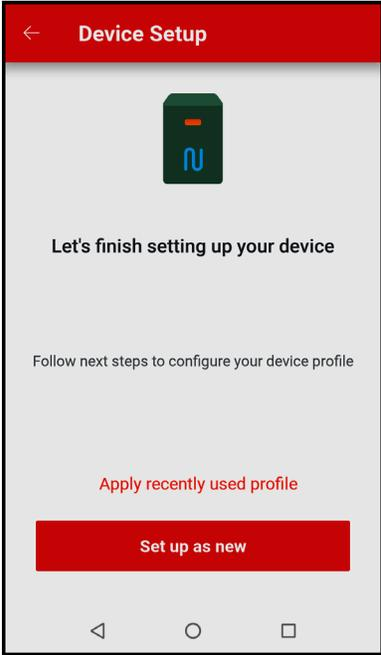

Figure 24. Device Setup as New
2. Press the "Set up as new" button to enter new identification and service information. Press the "Apply recently used profile" button to use information already provided. See **Figure 24**.